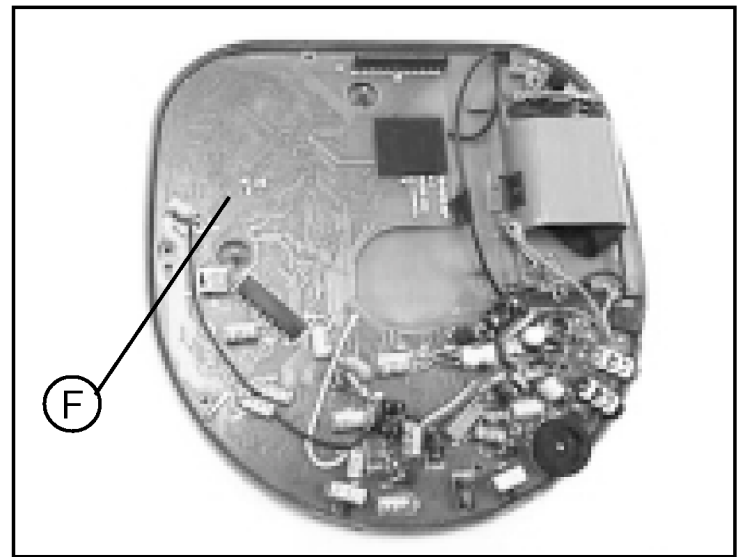

Fig. 6
- Remove Main Board ③ (Fig. 6)